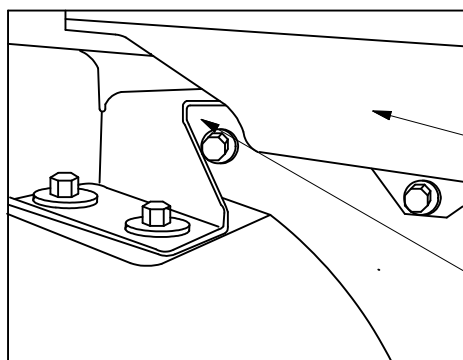

FIGURE 5
- a. Remove the (2) bolts retaining the inside appearance panel at the rear of the hatch.
- b. Loosen the towing eye under the appearance panel, rear passenger side (1 bolt). (See Figure 5)
6. Reinstall towing eye if applicable (sandwich hitch, bumper beam and towing eye). Hand tighten bolts (6).
9. Replace the (2) bolts that retain the inside appearance panel at rear of tailgate **V70 AND XC70 MODELS ONLY**